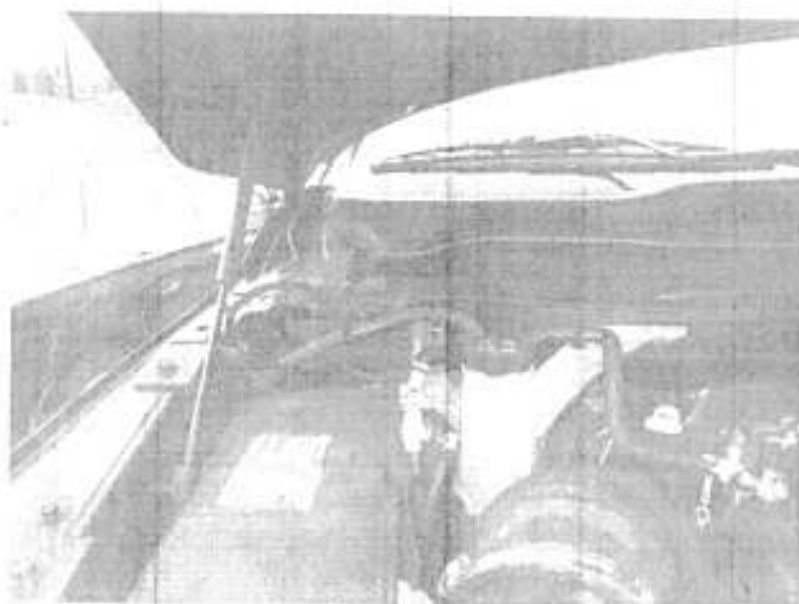

Figure 1
2. Using a flash light, shine a light into the hole to locate the weld access hole (See Figure 1, 2 and 3).